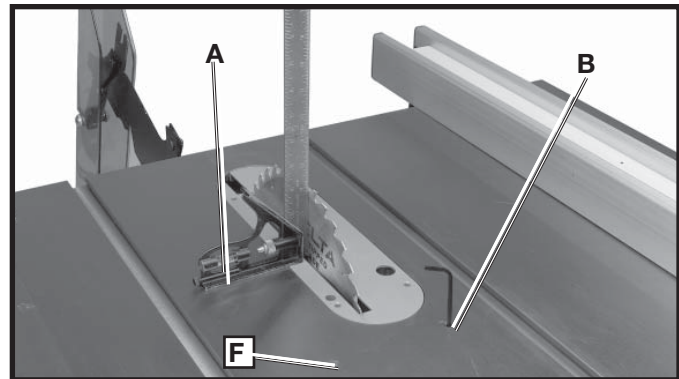

Fig. 60
3. Using a combination square (A) Fig. 60, check to see if the blade is at 90 degrees to the table surface as shown.
4. If the blade is not at 90 degrees to the table, move the blade off of the stop by turning the handwheel (B) Fig. 59 one turn clockwise. Loosen set screw (F) Fig. 60 with a 4mm hex wrench. Turn the blade tilting handwheel until the blade is at 90 degrees to the table. Tighten set screw (F) until it bottoms.
7. If the blade is not at 45 degrees to the table, move the blade off of the stop by turning the handwheel (B) Fig. 59 one turn counter-clockwise. Loosen set screw (B) Fig. 60, and turn blade tilting handwheel until the blade is 45 degrees to the table. Tighten set screw (B) until it bottoms.